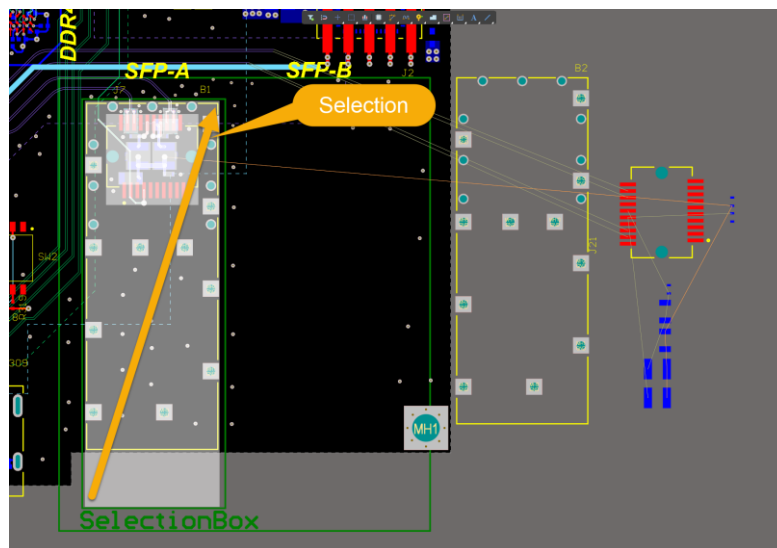

Figure 9. Select SFP-A items
25. Select with a mouse rectangle (left to right – fully include selection) all element inside the reference rectangle we added on a mechanical layer, Figure 9.